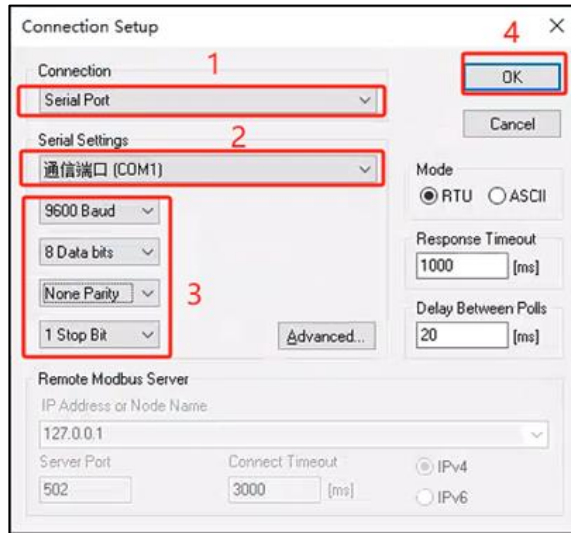

Figure 1
■ Connection Setup (As shown in figure 1)
■ ADL400 Connection Setup (As shown in figure 1)
- Connection Setup (As shown in figure 1)